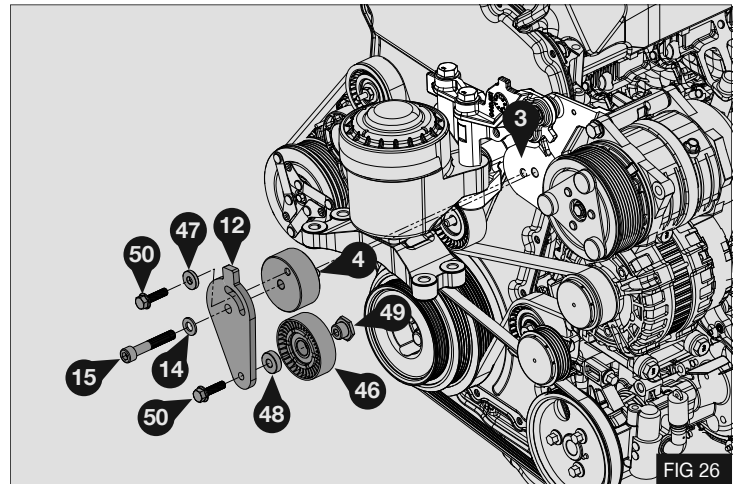

FIG 26
13. Tension drive belt (34), once correct tension is achieved (see table) tighten Cap head bolt (15) and M8 Bolt (50). - Fig 26